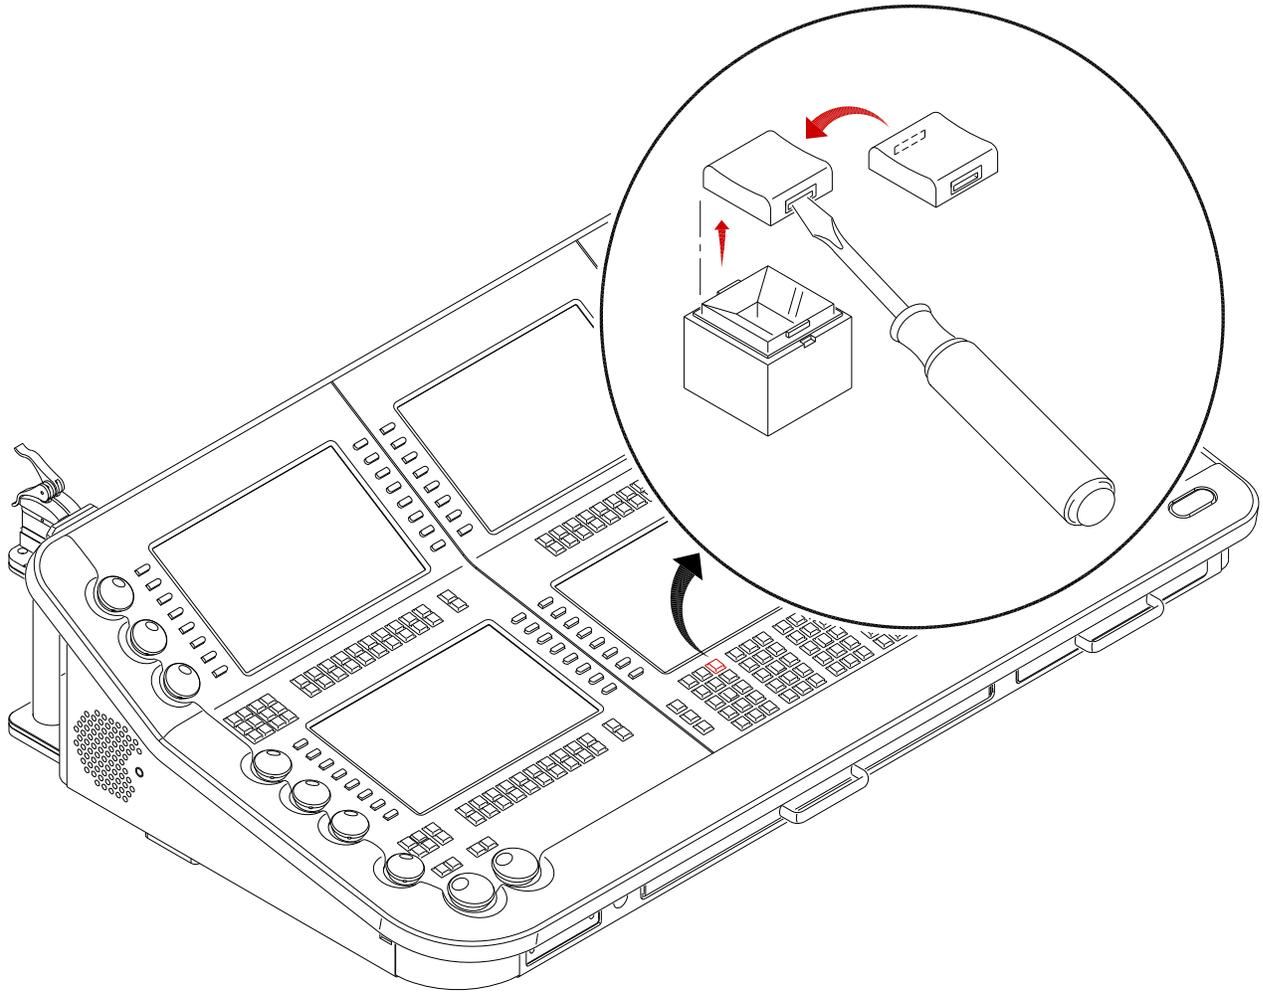

Figure 3: Replacing a Key Cap
- Step 2. Using a small tweaker screwdriver, carefully pry upward to remove key cap (**Figure 3**).